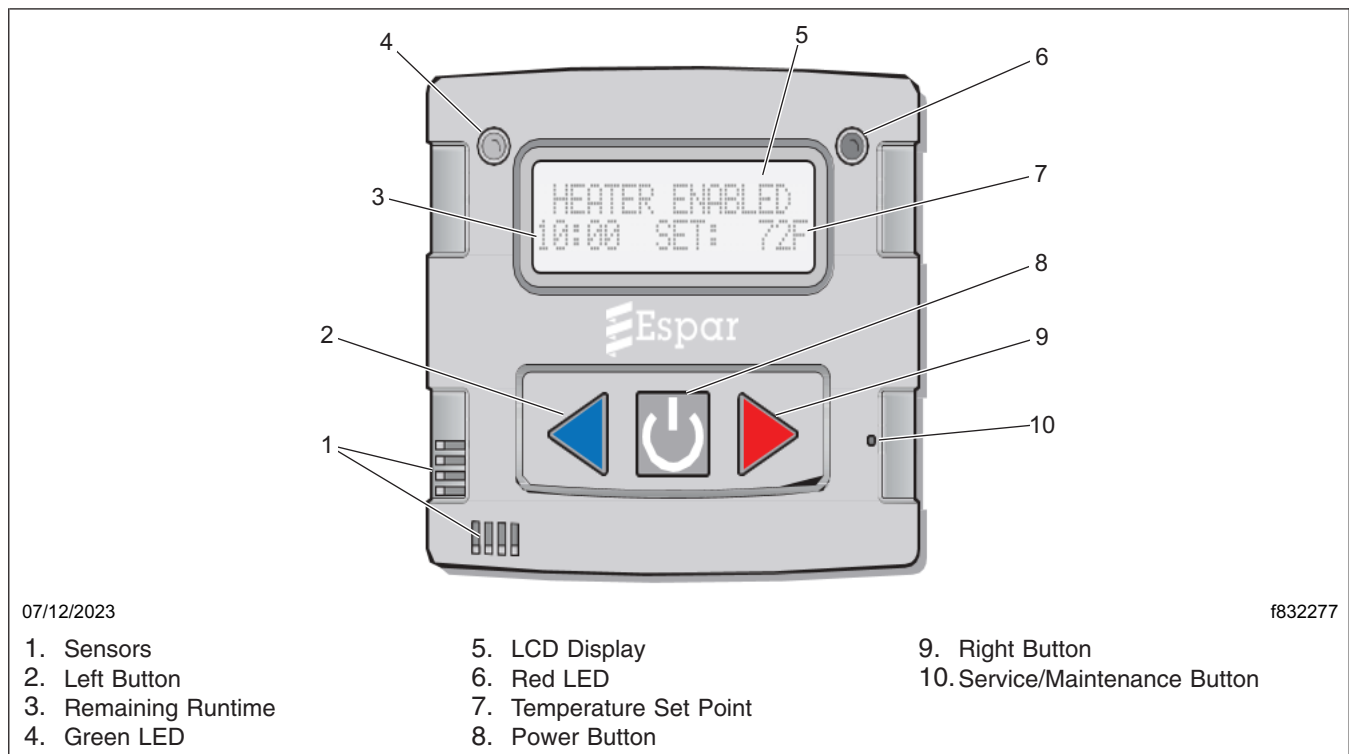

Fig. 32, Espar Digi-Max D1000 Controller
19. The operation of the Espar Digi-Max® D1000 Controller, shown in **Fig. 32**, is as follows: